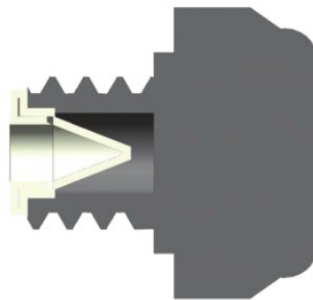

Figure 1
6. Remove the one-way valve from the exhaust filter (3) or retrieve the dislodged one-way valve from the exhaust side of the vacuum heel. Flush the one-way valve with distilled water or isopropyl alcohol using a syringe or with compressed air.
7. Rinse the exhaust filter (3) with distilled water or isopropyl alcohol.
8. Reinstall the one-way valve into the exhaust filter (3) as shown in Figure 1.
9. Reinstall the exhaust filter (3) into the vacuum heel and torque to 14 in-lbs.
10. Reconnect the tubing (4) to the inline filter (5) and socket.